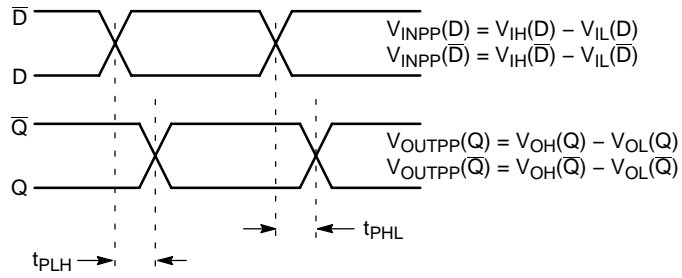

Figure 9. AC Reference Measurement
19. See Figure 9  $t_{skew} = |t_{PLH} - t_{PHL}|$  for a nominal 50% differential clock input waveform. Skew is measured between outputs under identical transitions and conditions @ 1 GHz.